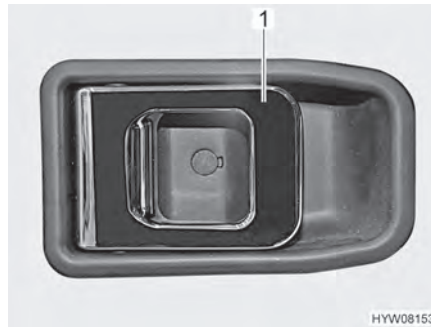

Fig. 31 Door lock (driver's door, inside)
- Opening:* ■ Pull on the handle (Fig. 31,1). The door lock is unlatched or opened.
- Locking:* ■ Push the handle (Fig. 31,1). The door lock is locked.